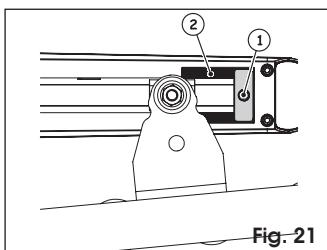

Fig. 21
3. Loosen the securing screw, figure 21 ref. ①. The screw does not need to be completely removed.
**⚠ The mechanical stop is coupled to a toothed sector, figure 21 ref. ②. In the case of obstructions during movement, check that the coupling is free. DO NOT USE FORCE.**